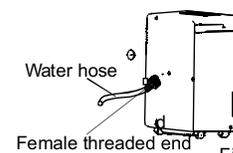

Fig.10
- Install the female threaded end of the water hose (not included) the adaptor A. (See Fig.10), then lead the water hose to the floor drain or a suitable drainage opening.